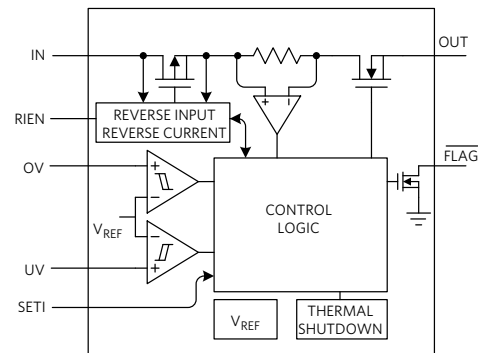

Figure 34. Integrated Protection in a Single IC
*Figure 34* shows an integrated protection circuit that addresses overvoltage, reverse polarity, current limiting, reverse current, and short-circuit protection with all the benefits of an e-fuse and surge stopper. Designers can easily implement robust protection in their smart building equipment and pass compliance with configurable pins to set UVLO/OVLO, current limit, real-time voltage, and current monitoring, current thermal foldback, thermal shutdown, and other features.